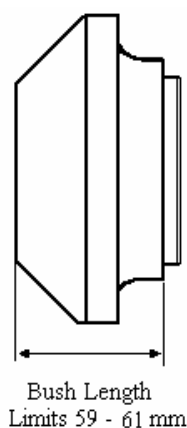

Figure 1: Measurement of Traction Rod Rubber Bush
4. Measure the length of each new bush, as defined in Figure 1. Limits are 59 to 61mm.